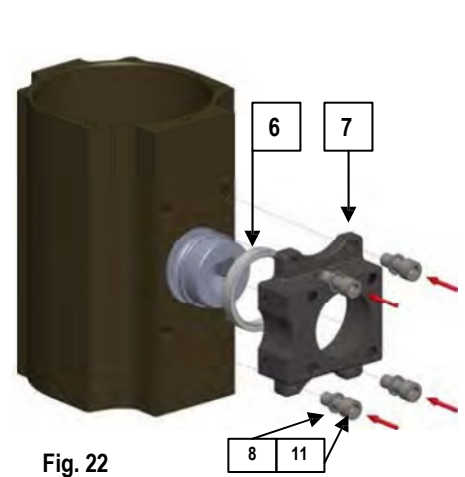
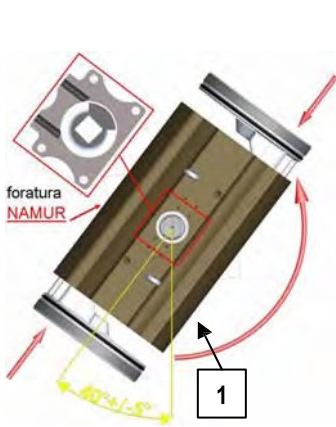

Fig. 22
Fig. 23
5. Remove the cylinder with pinion from the support and lay it on one base to mount the plate (7) with antifriction ring (6), (holes for adjusting screws on the same side as the NAMUR attachments) then screw down the fastening screws (11) with washer (8) in crossed sequence (see Fig. 22), and place the cylinder on the support again.
6. Grease the internal chamber of the cylinder (1) and both pistons (12) provided with O-ring (20) antifriction ring (21) anti blowout key (24) and thrust block (16) - The recommended lubricating grease is "KLUBER" TRIBO STAR 1EP".
7. Rotate the cylinder (1) by approximately 50° to the upper slot of the pinion (see Fig. 23).
8. For the standard execution (clockwise rotation opens) press the pistons (12) into the cylinder (1) while turning the cylinder (1) in counterclockwise direction (top view) until the pistons come into contact (see Fig. 23, 24).